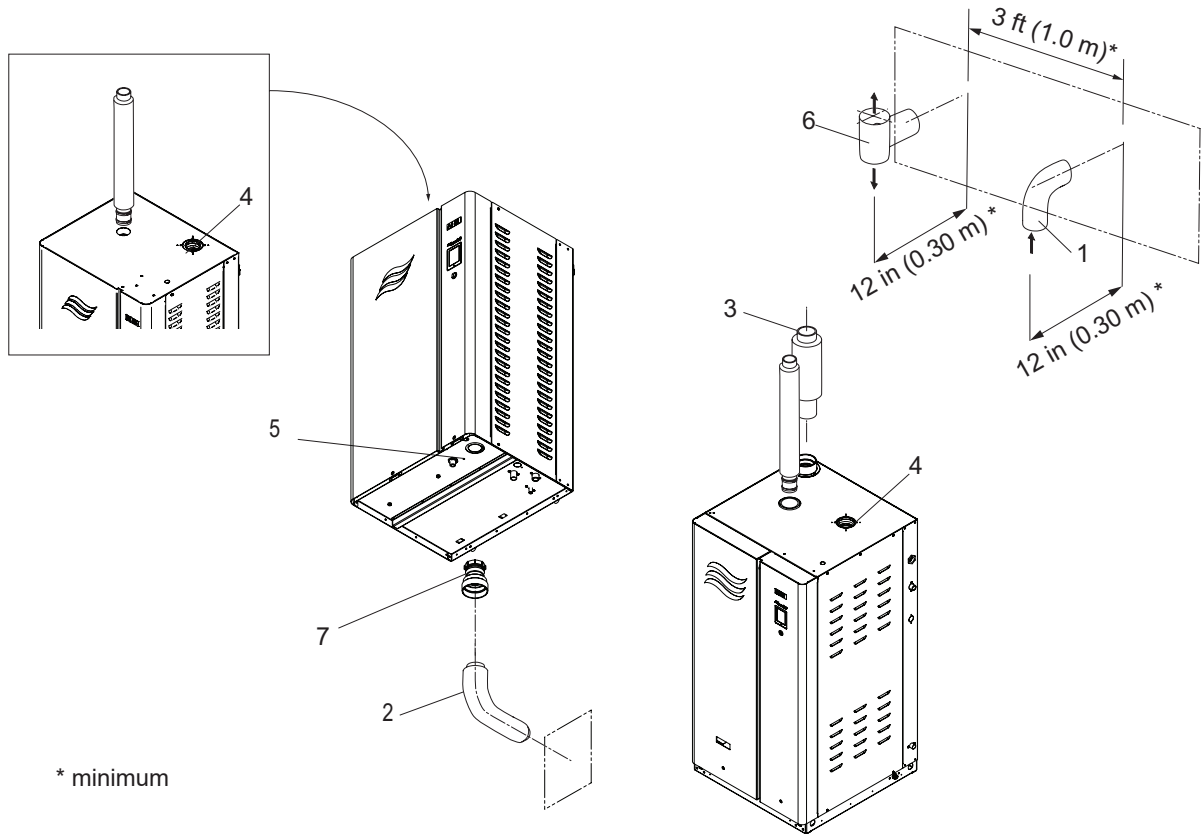

Figure 18: Sealed Combustion Connection (compact shown left)
Figure 18 shows the sealed combustion connection for the compact and full-size Condair GS humidifiers.
- An intake (elbow) terminal must be installed on the outside termination of the air intake vent, with the elbow facing down – refer to Figure 18 on page 38. The location and spacing between the air intake terminal and exhaust vent terminal must comply with all local and national regulations, with at least a minimum spacing of 3 ft (1 m) between them.